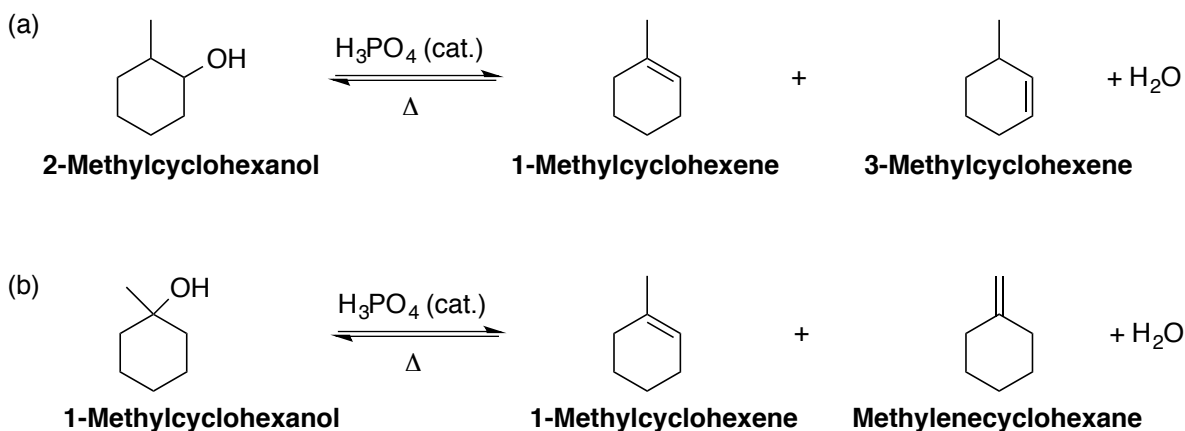

Figure 1. Dehydration of methylcyclohexanols.
In this experiment, students will perform the acid-catalyzed dehydration of either **1-** or **2-Methylcyclohexanol (Figure 1)**. The elimination reactions have two theoretically possible regioisomeric products. According to Zaitsev's rule, students should be able to predict the major and minor products. Students will use gas chromatography (GC) to analyze the reaction mixture and compare to the retention times of commercially available standards to confirm their hypotheses. In addition, students will confirm the presence of an alkene in their product with a potassium permanganate (KMnO₄) chemical test. KMnO₄ is used in what we call the "Barney reaction." It starts off dark purple and will turn brown with the formation of a precipitate (MnO). Refer to the McMurry text for a further discussion of the permanganate-mediated oxidative cleavage reaction.
- *Purpose:* Draw both reaction schemes from **Figure 1**. Circle your assigned reaction in lab.
- *Reagent Table:* Make a table with amounts physical properties of each alcohol and alkene in **Figure 1** as well as for H₃PO₄. This includes amount (mg or mL), mmol, MW, bp or mp, density, and a one-word hazard if applicable (irritant, corrosive, etc.)